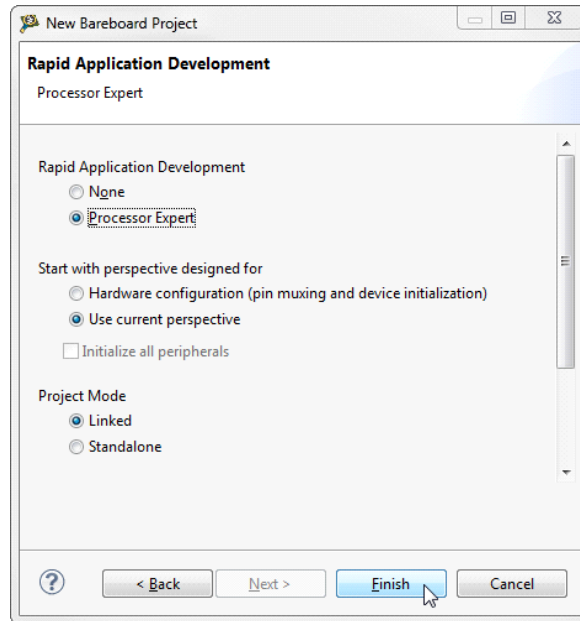

Figure 11. Select the Processor Expert Option
3. Select the **Processor Expert** option, and then click **Finish** (see Figure 11).